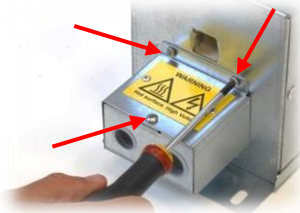

Figure 1
2. remove the cover by unscrewing the 3 screws as shown in the Fig. 1.
10. Close the lip by screwing 3 screws as shown in the Figure 1, max clamping torque is 1,3 Nm.